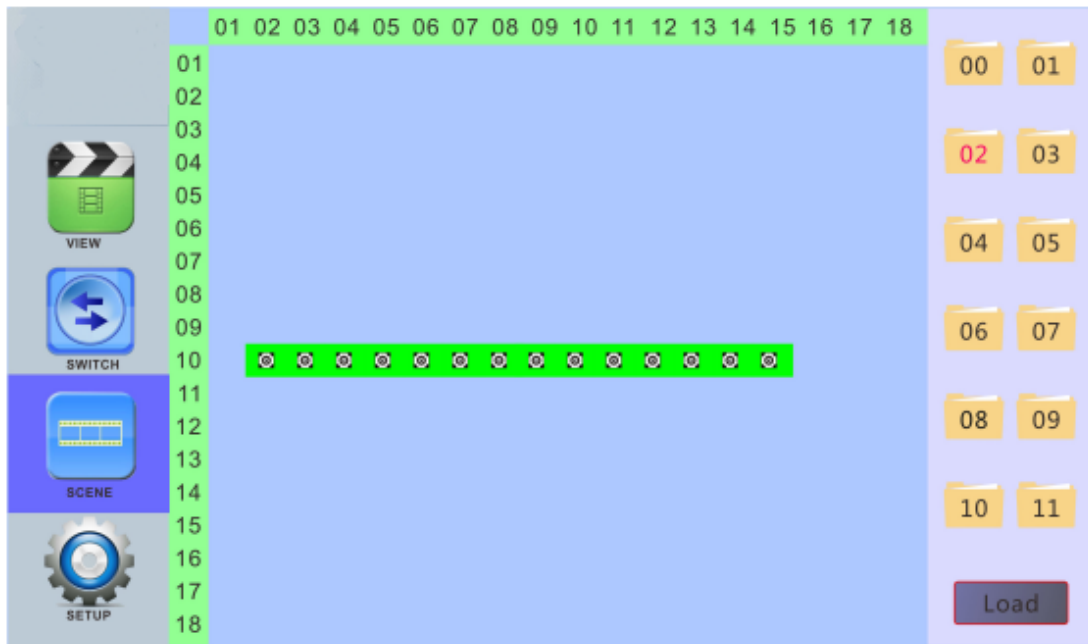

Figure 6.2.3 SCENE interface
3.SCENE interface: As shown in figure 6.2.3, the interface can call all the scene saved before, select the 01~13 to call the scene, after selection, the screen will display the configuration of the current scene, click "Load" to call the selected scene (00 is the current input and output status of matrix, can not be selected), as shown below in the "Scene 2", click "Load" to call.